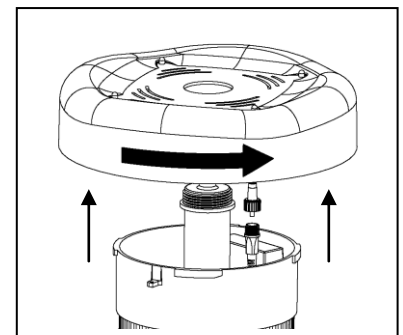

Fig. 7
3. Twist the top section counterclockwise. Then pull the top section from the lower. Unscrew the wire connector that connects the top section to the rest of the unit. Fig. 7